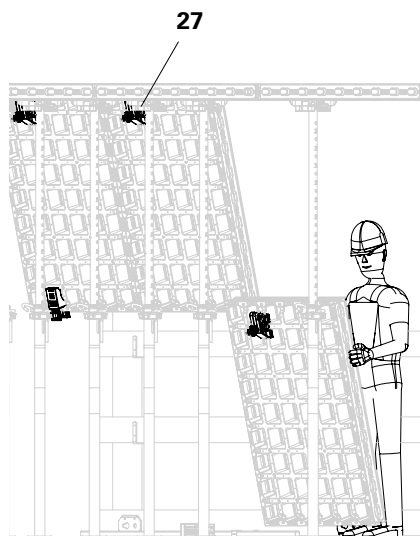

Fig. D4.02a
1. Attach DP panels (10) together with the DUO brace connector (27) to the slab prop with DFH prophead (31). (Fig. D4.02a)